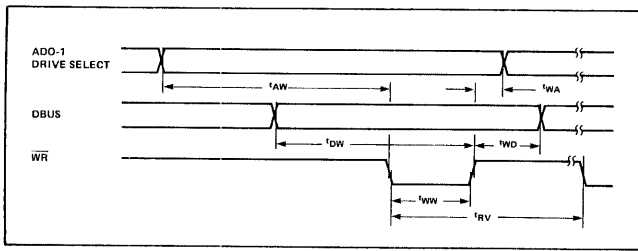

Figure 3-32. Register Load Timing
1. *Register Load Timing* Register load timing is shown in Figure 3-32. The AC characteristics are listed in Table 3-8.